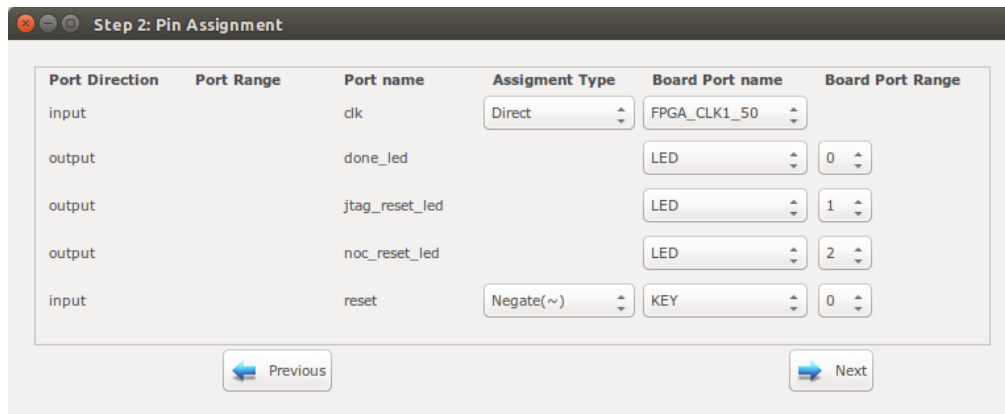

Figure 9.3: DE10-Nano FPGA board pin assignment.
8. Follow instructions in Compile the generated RTL code using Quartus II software to compile the desired emulation model for an Altera FPGA board. For this example we used the DE10-Nano FPGA board which its pin assignment is shown in Figures 9.3.